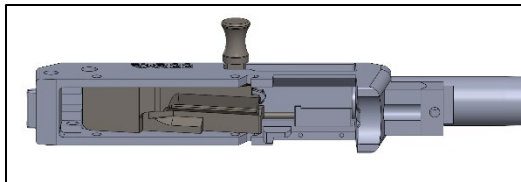

Figure 31
- With the spring fully compressed, insert the bolt into the lower rear of the receiver with the notched portion facing down and towards the barrel – Figure 31. This notch will mate with the charging handle.